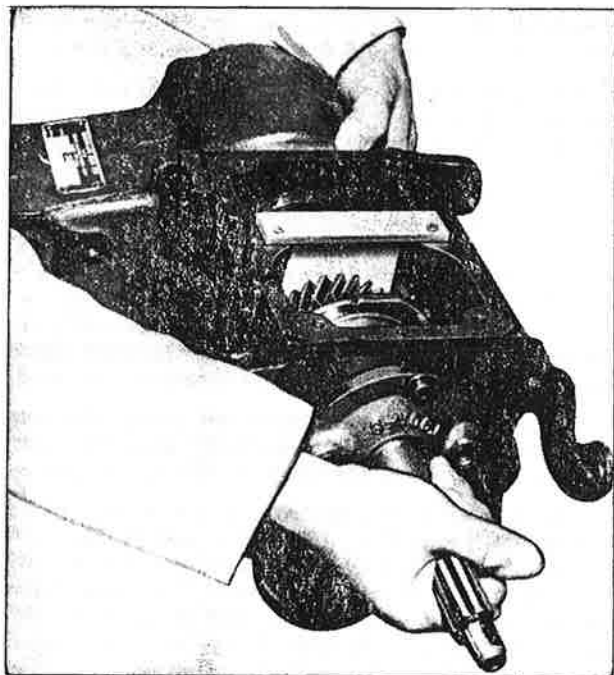

FIG. 185—MAIN SHAFT RETAINING PLATE
d. Shift the transmission into lower gear and place transmission main shaft retaining plate, special Tool W-194, Fig. 185, to the rear of the low and reverse speed sliding gear holding it to the transmission with two transmission cover cap screws. If this tool is not available, loop a piece of wire around the main shaft just back of the low speed sliding gear and fasten the ends of the wire to two front transmission cover screws to hold the main shaft in position. Should the transmission main shaft slide out of the transmission case, the